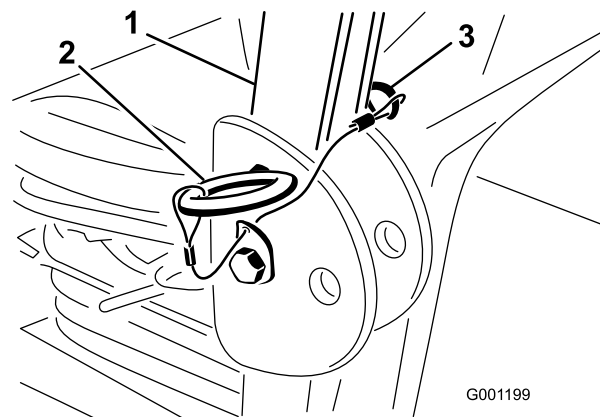

Figure 8
2. Raise the roll bar to the upright position and install the two pins and secure them with the hairpin cotter pins (Figure 8).
1. Remove the hairpin cotter pins and remove the two pins from the roll bar (Figure 8).